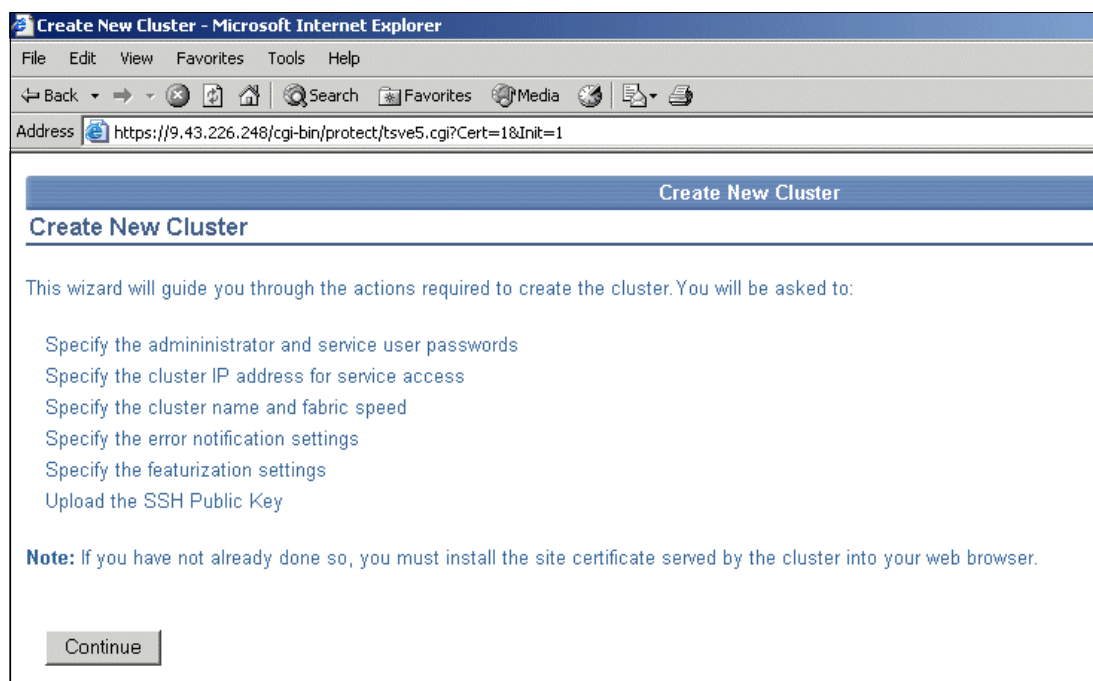

Figure 4-8 Create New Cluster wizard
4. The browser accesses the SVC and displays the Create New Cluster wizard window as shown in Figure 4-8. Click **Continue**.